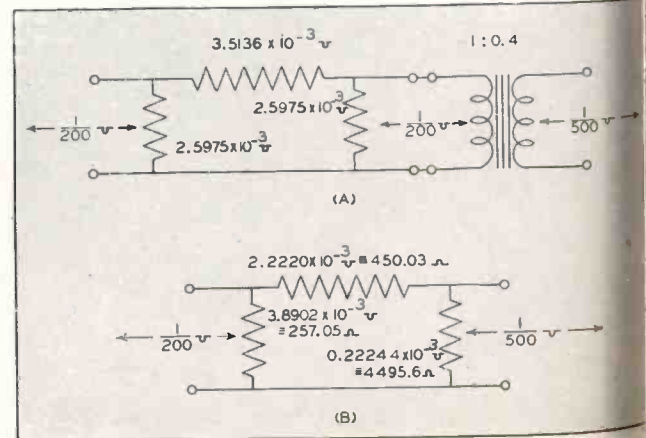

Fig. 4—Dissymmetrical pad of 10 db loss (B) equivalent to symmetrical and ideal transformer (A) both having the same loss
FIG. 4—(A) Another form of phase control, added to an electronic contactor. The amount of current that will flow to the welder is determined by the position of R_1 (B) Voltage and phase relationships, as explained in the text